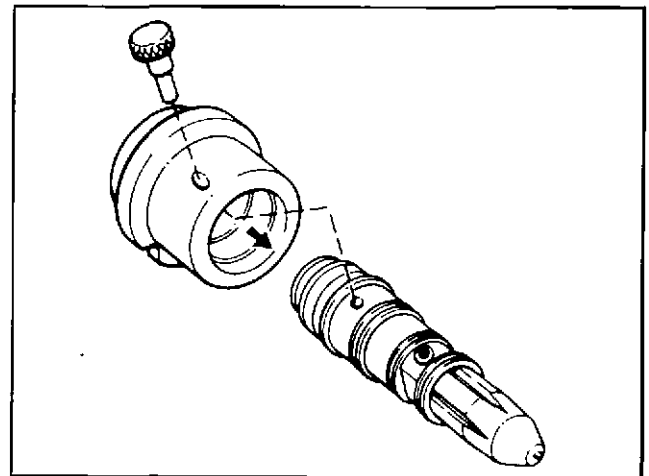

Fig. 2-50. Adapter used on the PT (type D) injectors
2. Assemble the adapter to the injector, Fig. 2-50.